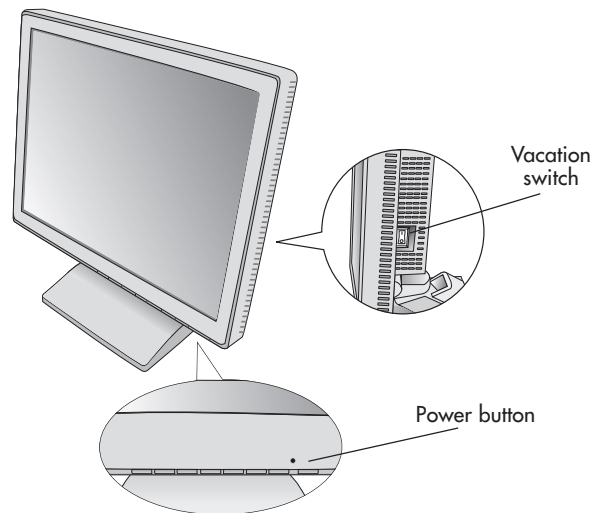

Figure D.1
6. The vacation switch on the right side of the monitor must be turned on (**Figure D.1**). Turn on the monitor with the front power button and the computer.